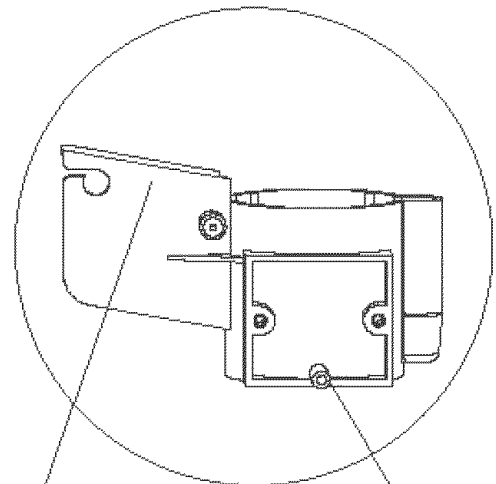

Fig. 2
1. Remove the rubber plug from the bottom of the float container. (See Fig. 2)